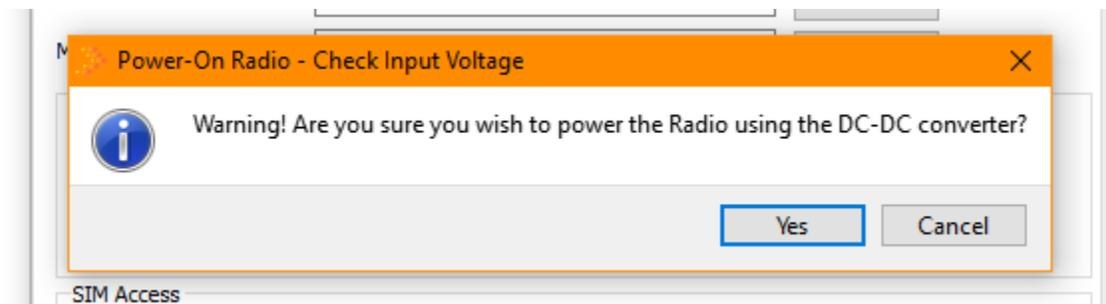

Figure 13: DC-DC Warning
8. In the DC-DC warning window, click on “Yes” (see Figure 13). The dev-kit provides safe voltages for the BitPipe™.